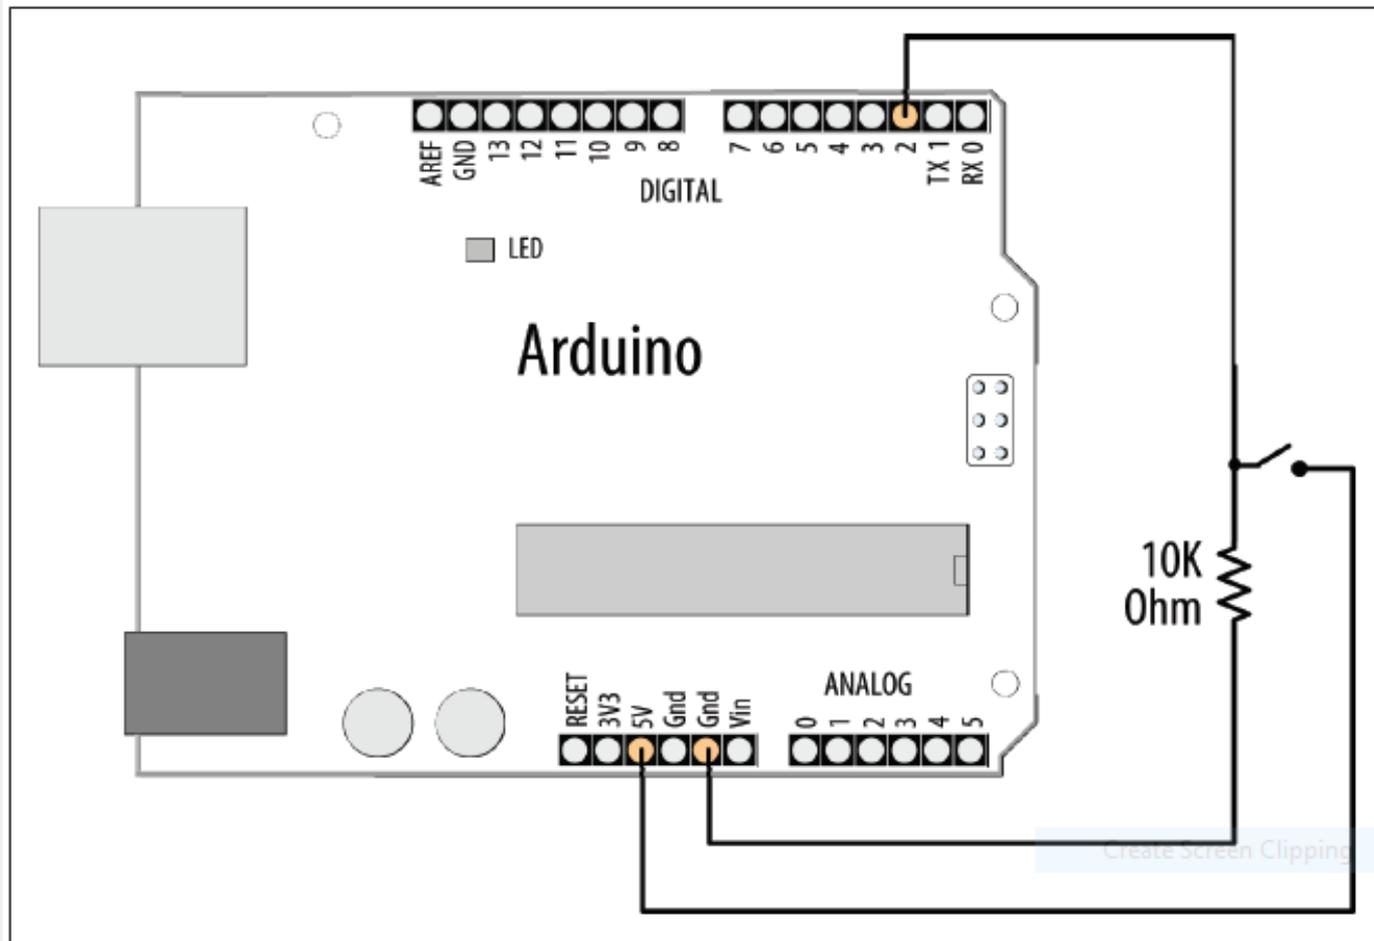

Figure 5-3. Switch connected using pull-down resistor
- There are many ways to solve this problem; here is **one** software solution using Recipe 5.1 for the wiring shown in Figure 5-3 :